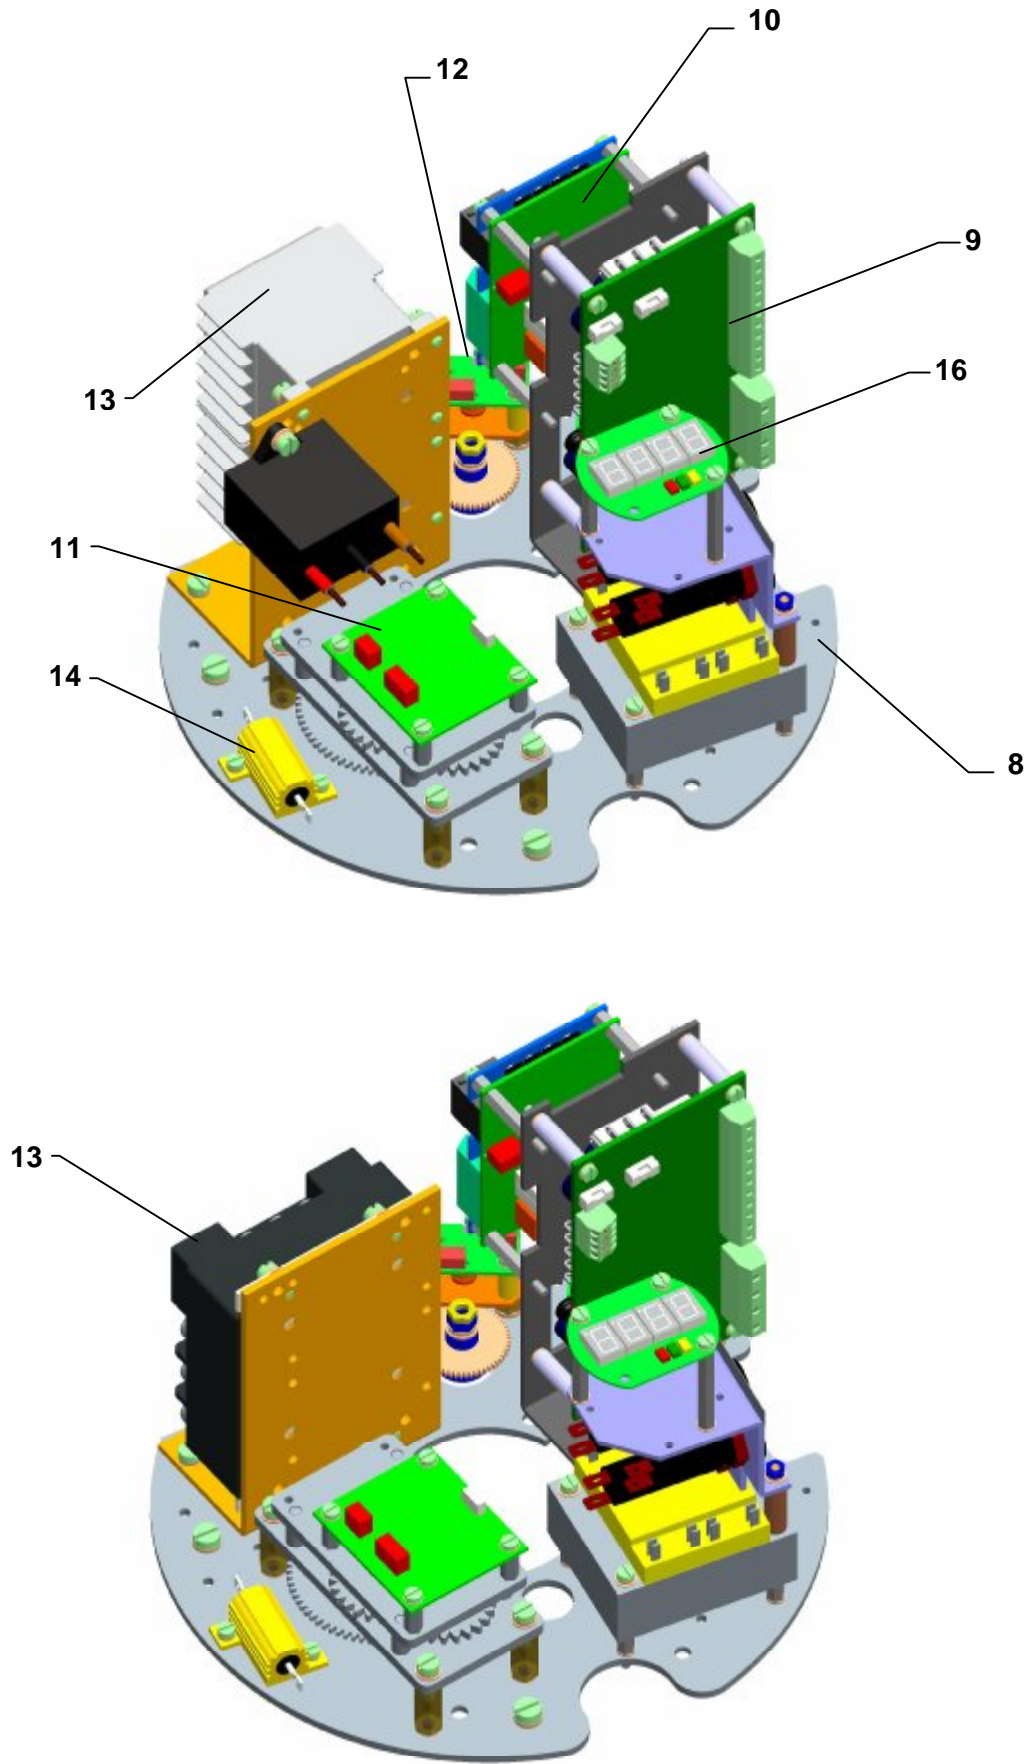
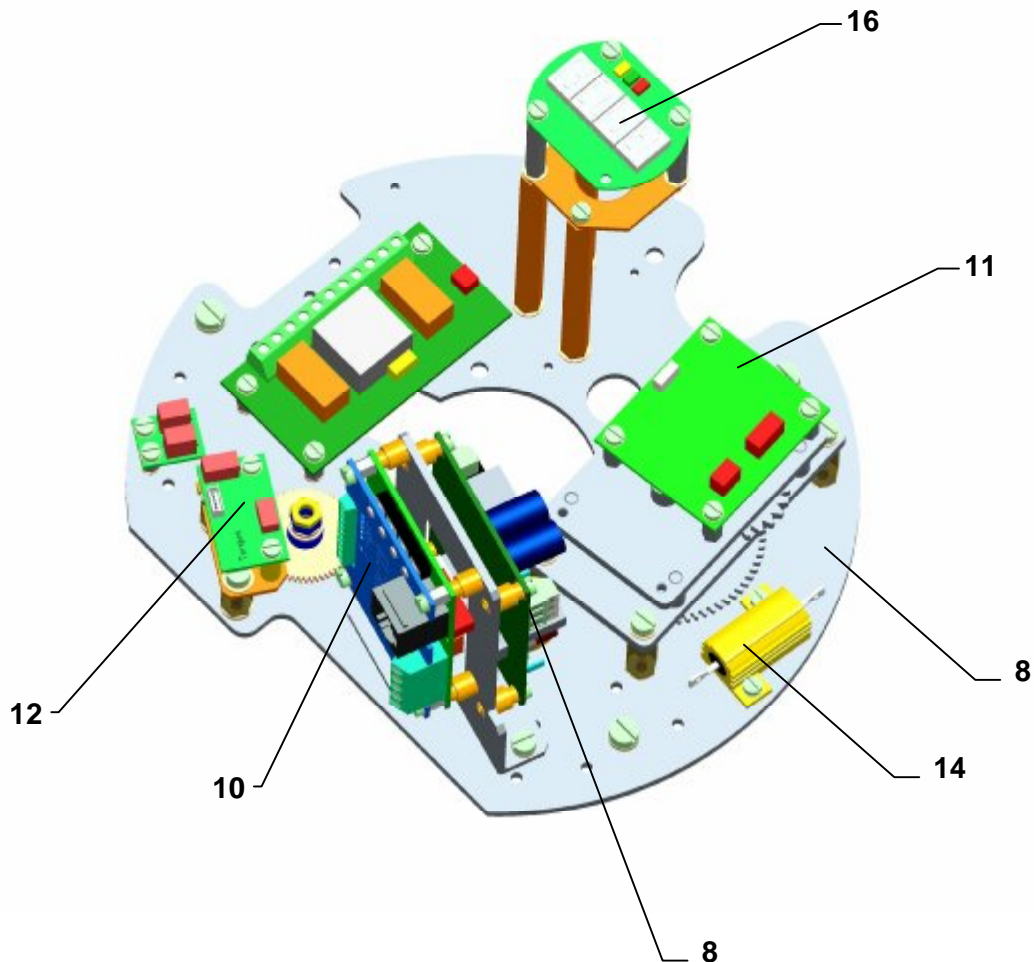

Fig.3 – MTR 3PA-Ex – Three - phase version
Fig.3a – MTR 3PA-Ex – Single-phase
The bottom part of control box closes the box of force transmission and forms carrying part of control plate Fig.3 and Fig.3a.
The electric actuator is driven by an **electric motor (M1) (fig.1)** supplied and controlled from the **power supply board (9) (fig.3, 3a)** and **control unit (10) (fig.3,3a)** of the DMS3 electronics.
Space heater (14) (fig.3,3a) is placed at the mounting base (8) (fig.3,3a).
Control unit (10) (fig.3,3a) – main part of system DMS3 – it contains microprocessor, 6 signal LED and 4 buttons for simple adjustment and control of EA, connectors for connection of scanner and sourcing board and communication connector (connection to PC for adjustment and diagnostic), 2 free programmable relays R1 and R2, 1 relay READY and terminals for electric connection.
Supply board for 3-phases version (9) (fig. 3,3a) – is powered from the transformer (15) (fig. 3, 3a) and offers to the user output voltage 24 V DC, max. 100mA. The user relays READY, RE1 to RE5 are part of the supply board. The supply board gives the output to the space heater and also to
Position sensing unit (11) (fig.3, 3a) – secures contactless magnetic position sensing of output element.
Torque sensing unit (12) (fig.3, 3a) – provides contactless magnetic torque reading.
LED display (16) (fig.3, 3a) – shows instant position of EA output member and reports and displays potential errors, which would occur when EA is operated. Signalling motion and failure of the EA is also indicated by LEDs diode. LED display is used only pro type of construction EA without local control.